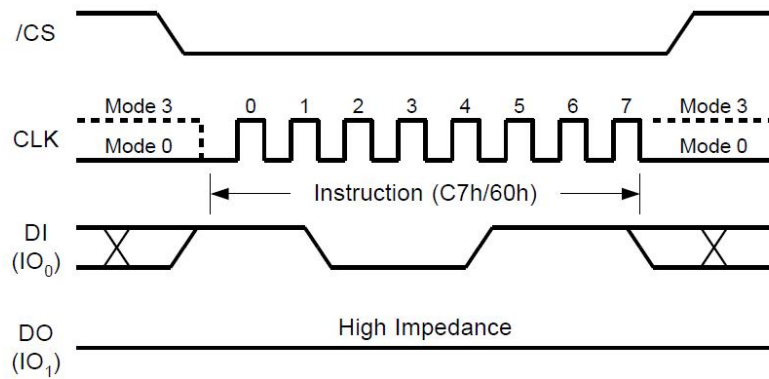

Figure19. Chip Erase Sequence Diagram
The Deep Power-Down Mode automatically stops at Power-Down, and the device always in the Standby Mode after Power- Up. The Deep Power-Down command sequence: CS# goes low → sending Deep Power-Down command → CS# goes high. The command sequence is shown in Figure19. CS# must be driven high after the eighth bit of the command code has been latched in; otherwise the Deep Power-Down (DP) command is not executed. As soon as CS# is driven high, it requires a delay of t_{DP} before the supply current is reduced to ICC2 and the Deep Power-Down Mode is entered. Any Deep Power- Down (DP) command, while an Erase, Program or Write cycle is in progress, is rejected without having any effects on the cycle that is in progress.